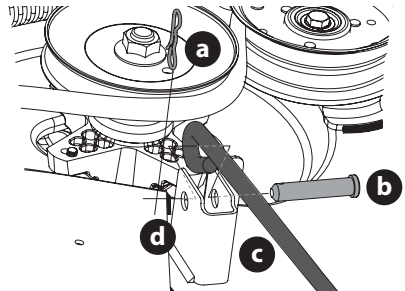

Fig. 45
- b. Remove the third bow-tie pin (a) from the clevis pin (b) that secures the front deck control rod (c) to the front deck lift bracket (d). Remove the clevis pin (b) (Fig. 45).